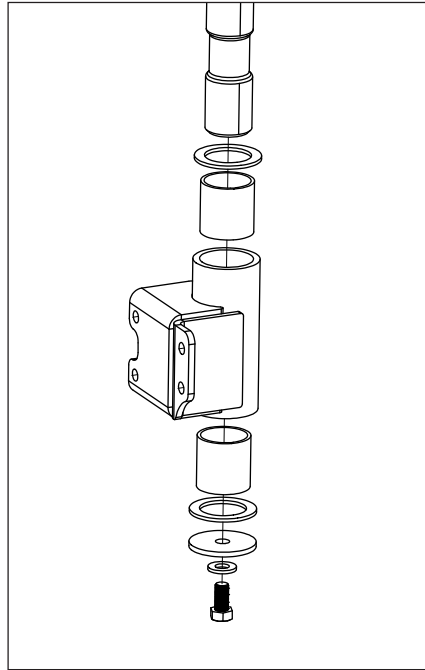

Figure 14
8. Install bronze washer all the way onto the spindle on the Tire Carrier and carefully install the spindle into the spindle housing. Make sure the spindle is fully seated into the housing, then install the other Bronze Washer and steel Retention Disc. Use the fine thread 1/2"x 1" bolt and washer to firmly attach. There is no need to add grease at this time (fig. 14).